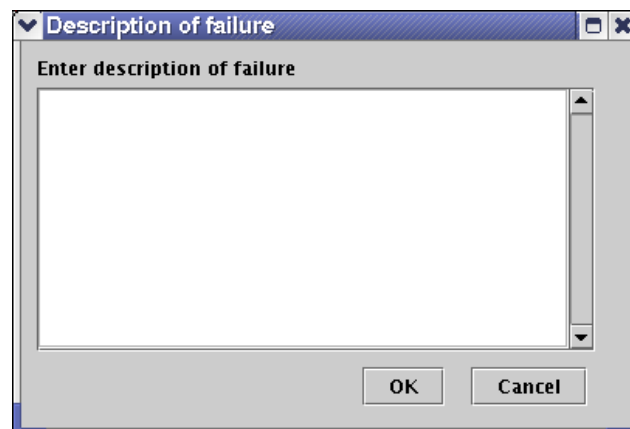

Figure 5-27. Description Window
5.4.1.7.5 Description of Failure or Corrective Action Enter Button. The **Description of Failure or Corrective Action Enter** button allows the operator to describe a failure or corrective action on a particular part. After the button is pressed, the **Description of Failure** window (Figure 5-27) will appear. The operator types a description of the failure or corrective action into the window. To save the data, the operator needs to select the **OK** button and the window will close. If the **Cancel** button is pressed while the window is open, the description in the window will be deleted and the window will close.